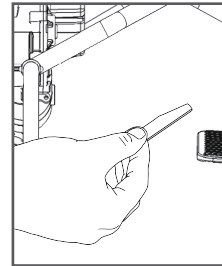

Figure 20
- ▶ Folding steps: (see Figures 20, 21 and 22)